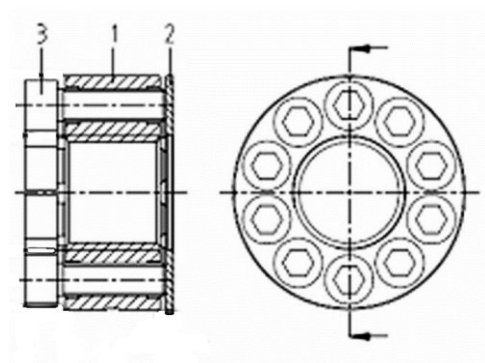
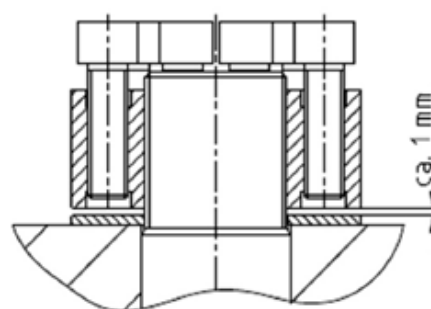

Figure 13: Assembly situation
Figure 15: Screwing out the nut
The pressure bolts (Figure 13, pos. 3) in the tensioning nut may not protrude from the nut on the pressure side (see Figure 15).
1. **Slip on the washer (Figure 13, pos. 2) and then screw on the nut (Figure 13, pos. 1) and fasten finger tight.**
2. **Next screw out the nut (Figure 13, pos. 1) by approx. a quarter turn.**